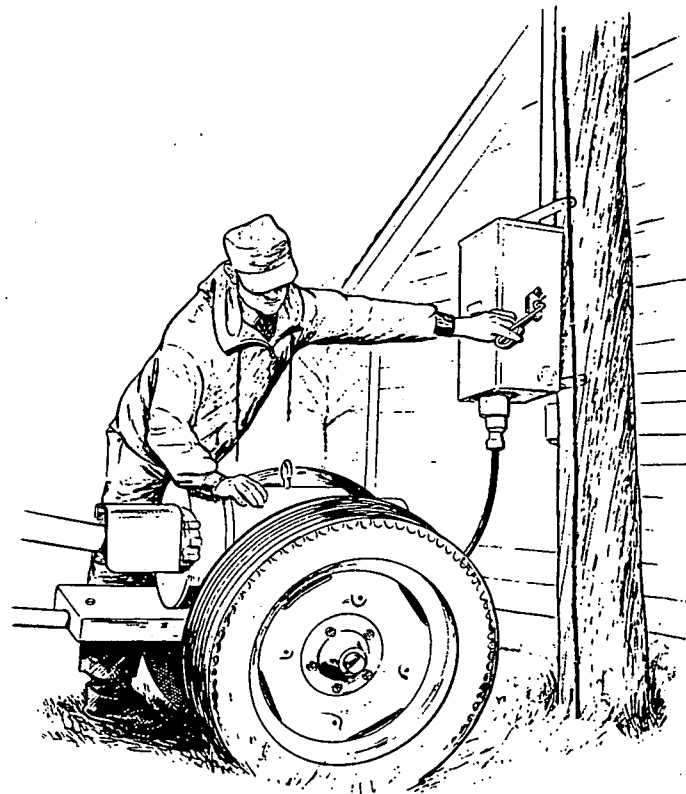

FIGURE 4. PORTABLE INSTALLATION
For portable use (alternator mounted on a trailer), connect load wires from terminal block in alternator control box to an approved disconnect plug that can be connected to load transfer switch. Use a flexible power cord so cable can be easily wrapped up when not in use (Figure 4).
3. If alternator is mounted on a trailer for portable use, connect power leads between receptacles or alternator and load, Figure 4.